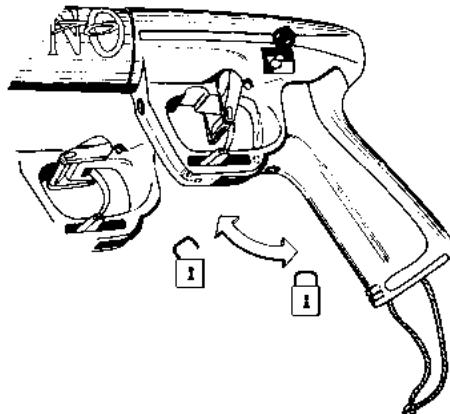

Fig. 4
- 3) Before entering the water, wrap the shock line around the line release at the handle then around the line holder at the nose cone until slack is used up. Secure the shaft by placing the rear of the shaft in the hole in the trigger guard, then snap the front end of the shaft into the shaft holder on the nose cone (see Fig. 4).